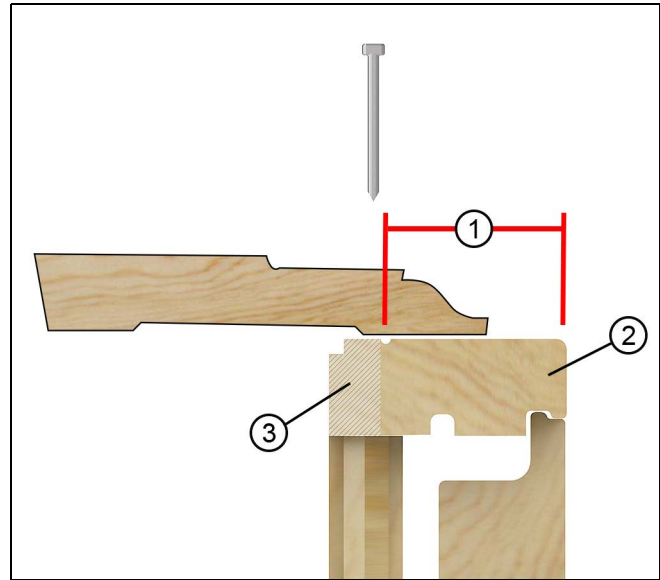

Figure 64 Keep trim fasteners to the outside of the liner kerf.
1. When installing interior trim, keep fasteners between the groove in the jamb liners and the exterior of the frame. Keep the fastener about 1 3/16" (29) away from the interior edge of the interior jamb liner. See Figure 64.